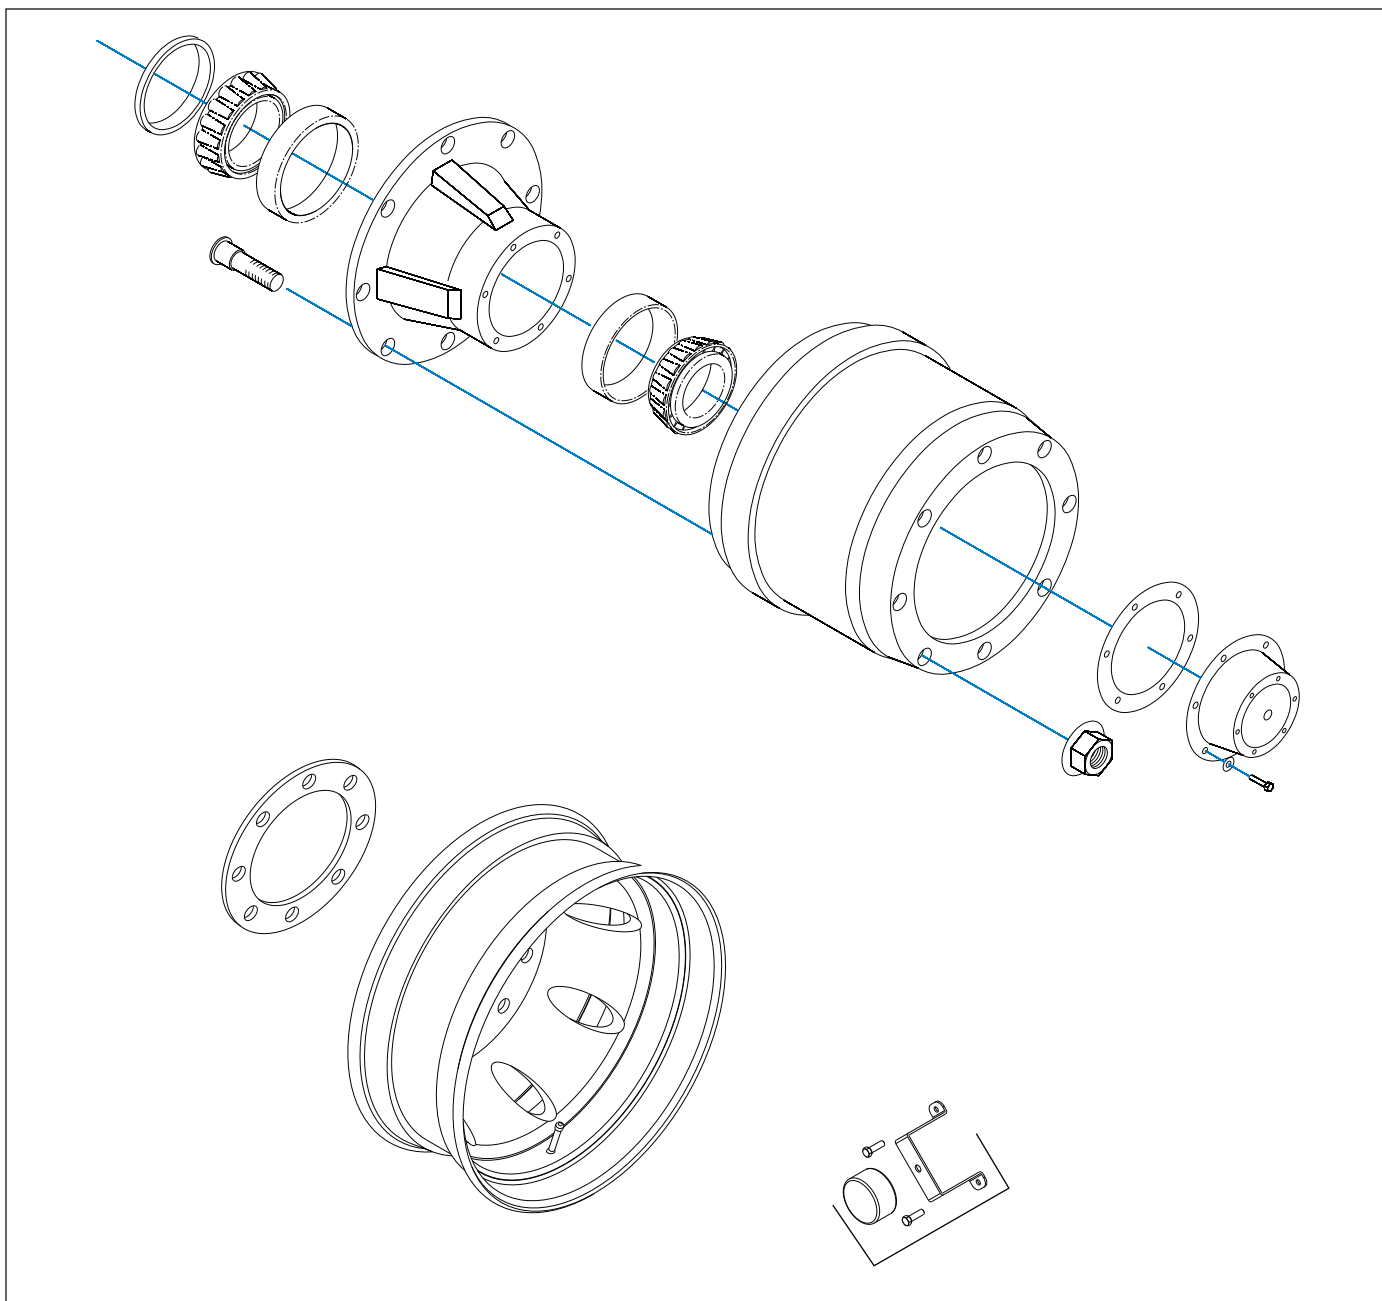

Figure 4-18: Outboard Mount Hub and Drum
4. Replace the hub and drum as follows: (*See Figure 4-18*)
- i. Place the drum over the hub and brake shoes being careful not to damage the threads on the studs (*See Figure 4-18.*) Make sure the drum seats flat against the hub flange and mates properly with the hub pilot. There should be no interference between the brake drum pilot chamfer and the corner radius on the hub. If interference exists, the hub will not be able to function properly.
- k. If studs are marked "R" or "L", right hand ® hubs should be installed on the curbside of the vehicle, left hand (L) hubs should be installed on the driver side.